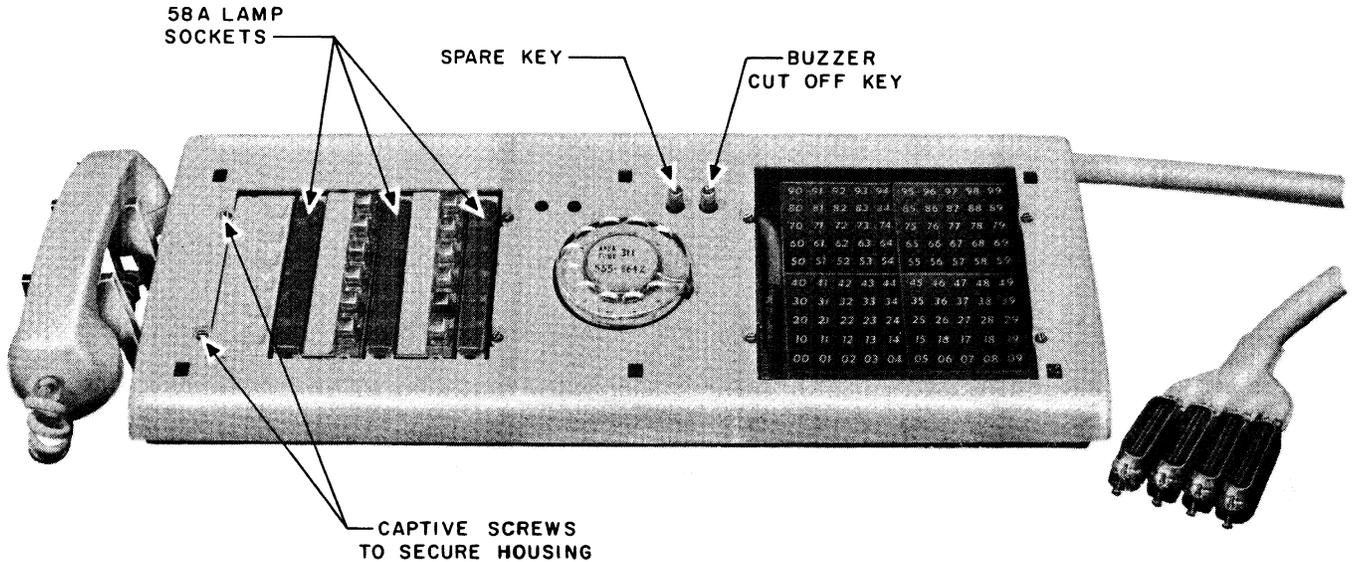

Fig. 3 – 6A1 Telephone Console (Bezel Removed)
2.06 The 6A-type telephone console is equipped with a block key assembly P-13E976. It consists of a field of 100 lamps numbered 00 to 99 for station busy identification. (See Fig. 3.)
2.10 The spare key and buzzer cutoff key as shown in Fig. 3 are coded switch assemblies P-15E391.
2. 5A-type: loosen four captive screws. 6A-type: loosen eight captive screws (see Fig. 3).